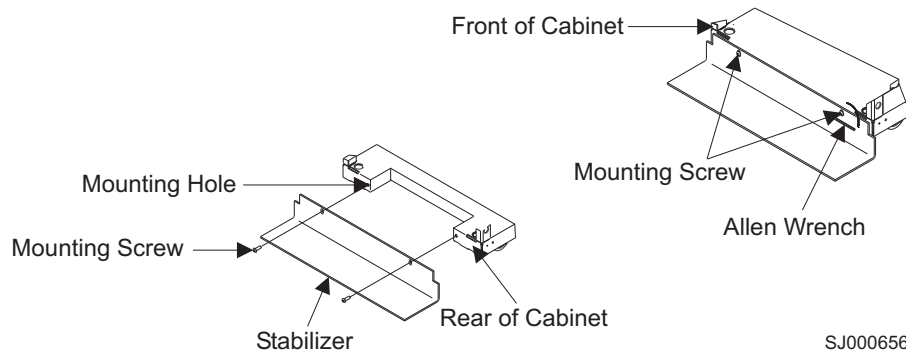

Figure 63. Stabilizers
1. Align the slots in the stabilizer with the mounting holes at the bottom front of the rack. See Figure 63.